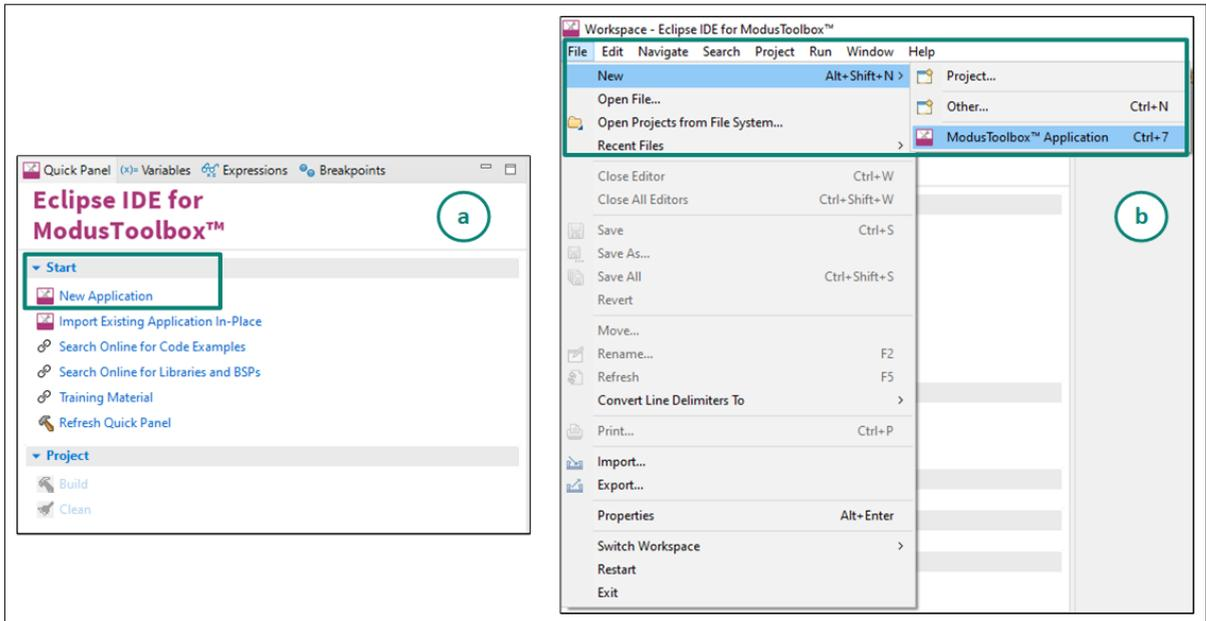

Figure 7 Create a new ModusToolbox™ application
- b.** Alternatively, you can choose **File > New > ModusToolbox™ Application**, as shown in Figure 7